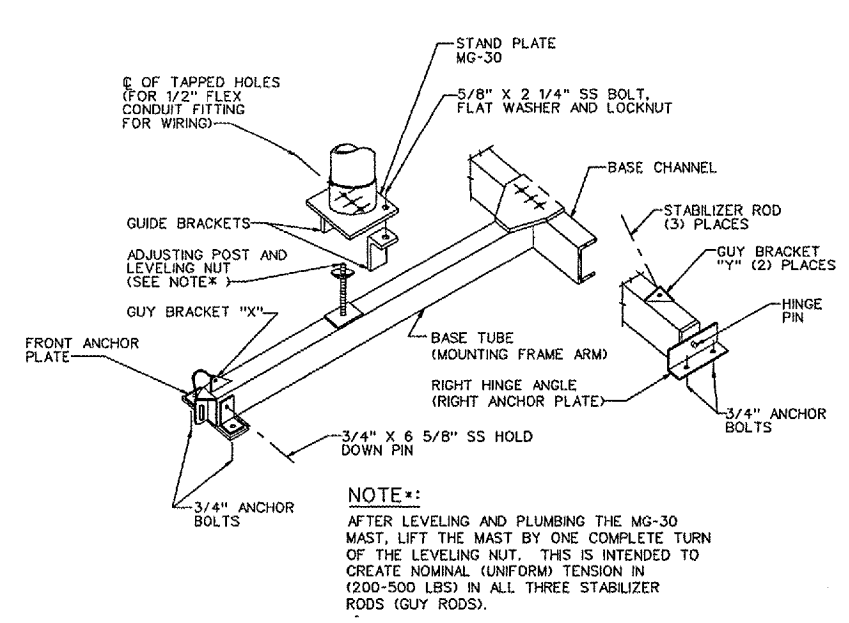
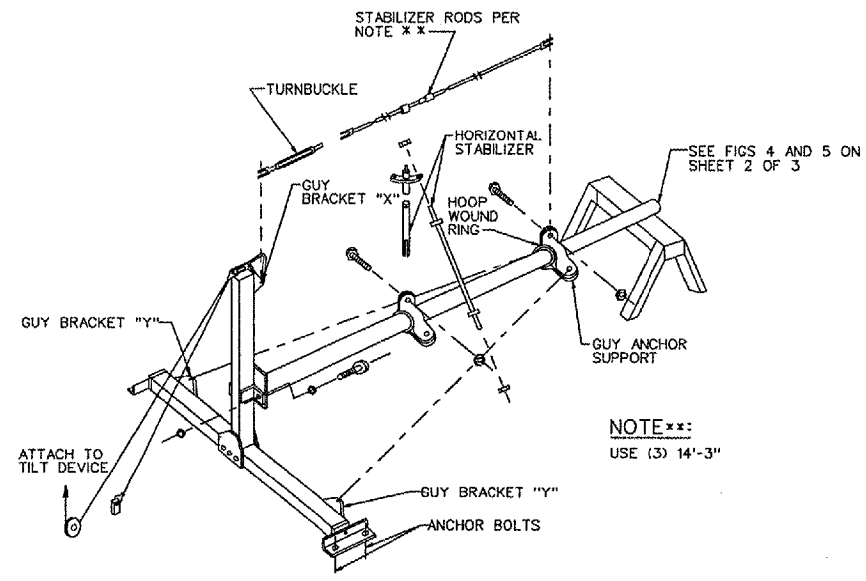
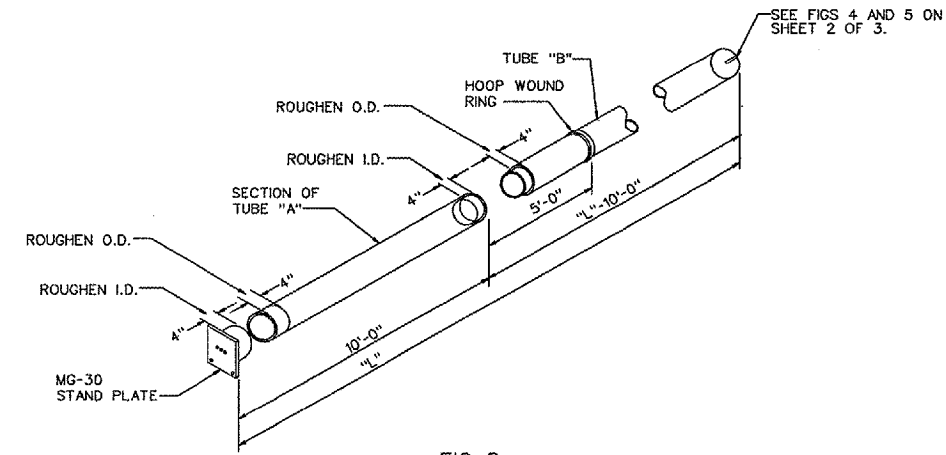

FIG 6
FIG 7
FIG 8
1. TUBE "B" OF EACH MG-30 STRUCTURE HAS BEEN TAILOR CUT TO THE PROPER LENGTH. THE TOPS OF THESE TAILOR CUT TUBES HAVE FACTORY CUT SLOTS. THE STATION DESIGNATIONS ARE MARKED INSIDE THE TUBES AT THE TOP. TUBE "A" OF EACH MG-30 STRUCTURE HAS BEEN CUT TO A LENGTH OF 10'-0". THE DIMENSION "L" IN FIGS 8 AND 9 IS FACTORY-DETERMINED TO PROVIDE THE CORRECT TOWER HEIGHT.
ALL BURRS ON SAW-CUT EDGES ARE FILED SMOOTH. USE EMERY CLOTH TO ROUGHEN THE SURFACES TO BE BONDED, AS SHOWN IN FIGURE 8. CLEAN THE ROUGHENED SURFACES WITH A SOLVENT (TRICHLOROETHYLENE, ACETONE, OR METHYL ETHYL KETONE).
ALL LIR STRUCTURES ARE ASSEMBLED IN HORIZONTAL POSITION (SEE FIG 7). USE MOUNTING FRAME ASSEMBLY SHOWN IN FIGURE 6. INSERT HINGE PINS WHICH ARE ATTACHED TO BASE CHANNEL, INTO LEFT AND RIGHT ANCHOR PLATES. PLACE THE FRONT ANCHOR PLATE, AND THE LEFT AND RIGHT ANCHOR PLATES OVER THE 3/4" ANCHOR BOLTS. CONNECT BASE TUBE TO BASE CHANNEL, MAKING SURE MOUNTING FRAME ASSEMBLY SWINGS FREELY ON HINGE PINS. LEVEL AND SECURE ON ANCHOR BOLTS WITH 3/4" HEX NUTS AND FLAT WASHERS. RAISE MOUNTING FRAME ARM TO ABSOLUTE VERTICAL. CHECK WITH LEVEL. ATTACH THE GUY ANCHOR SUPPORT ABOVE THE HOOP WOUND RING. ATTACH STABILIZER RODS TO THREE GUY ANCHOR ENDS (FIG 7). BOLT TWO GUIDE BRACKETS (FIG 6) TO BOTTOM OF MAST STAND PLATE WITH THE 5/8" X 2 1/4" STAINLESS STEEL BOLTS AND NUTS. DO NOT TIGHTEN. POSITION STAND PLATE WITH TAPPED HOLES ALIGNED PER FIG. 8. SET STAND PLATE OVER ADJUSTING POST. POST GOES INTO HOLE IN CENTER OF STAND PLATE. ADJUST NUT FOR PROPER HEIGHT. SUPPORT UPPER END OF MAST SO IT IS APPROXIMATELY PARALLEL WITH GROUND. CLAMP GUIDE BRACKETS TO BASE TUBE, AND TIGHTEN THE 5/8" BOLTS. FASTEN TURNBUCKLES (ATTACHED TO STABILIZER RODS) TO GUY BRACKETS "X" AND "Y". TIGHTEN TURNBUCKLE AT GUY BRACKET "X" UNTIL MAST IS EXACTLY PERPENDICULAR TO MOUNTING FRAME. TIGHTEN THE OTHER TWO TURNBUCKLES AT GUY BRACKETS "Y". ATTACH HORIZONTAL STABILIZER ASSEMBLY. USE THE APPROPRIATE NUMBER AND SIZE OF STABILIZER RODS DEPENDING ON THE TOWER TYPE (MG-30 OR MG-40). SEE FIGURE 7. FIGURE 7 APPLIES TO THE MG-30 AND MG-40 STRUCTURES, BUT PICTORIALLY ILLUSTRATES ONLY THE MG-30.